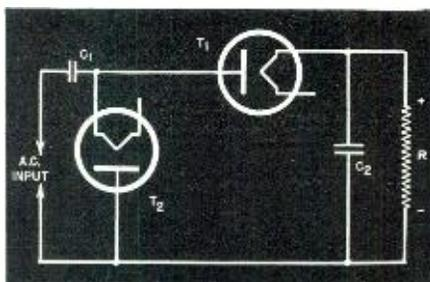

Fig. 1. Half wave voltage-doubler.
**H**ALF-WAVE voltage-doubling rectifiers have been widely used for a long time, particularly in inexpensive receivers designed to operate directly from the 115-volt A.C. lines without benefit of a power transformer. Yet it has remained for D. L. Waidelich of the University of Missouri and C. H. Gleason of *Westinghouse*, both Associates of the *Institute of Radio Engineers*, to analyze their operation and to compare the half-wave with the full-wave circuits. This is illustrated in a recent issue of the *I.R.E. Proceedings*, from which the accompanying diagram, Fig. 1, and the following information are taken.